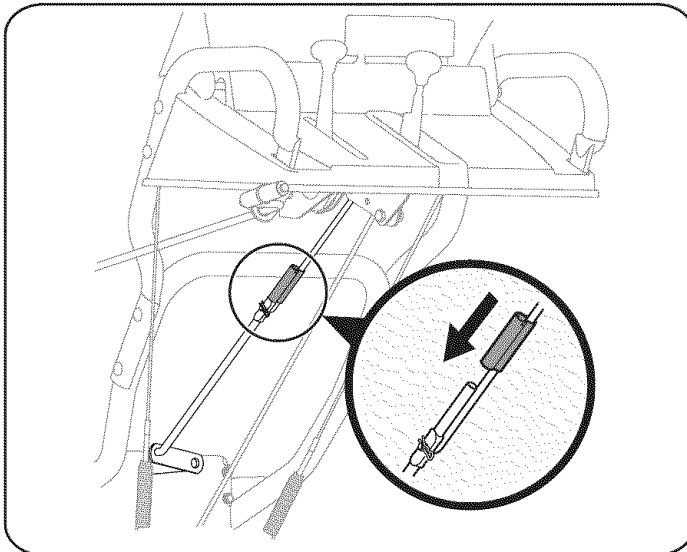

Figure 2
3. Align the upper and lower shift rods, then slide the shift rod connector down over the end of the lower shift rod. Tap the connector until the lower rod is completely through the connector. See Figure 2.